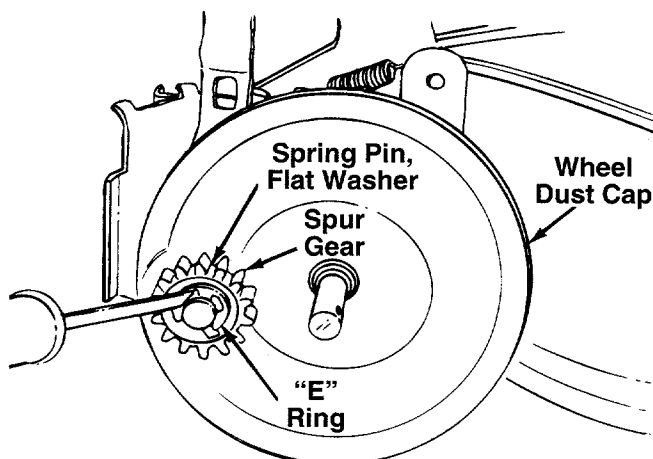

FIGURE 18.
8. With a screwdriver pry "E" ring off of front axle. Slide off spur gear, spring pin, flat washer and wheel dust cap. See figure 18.